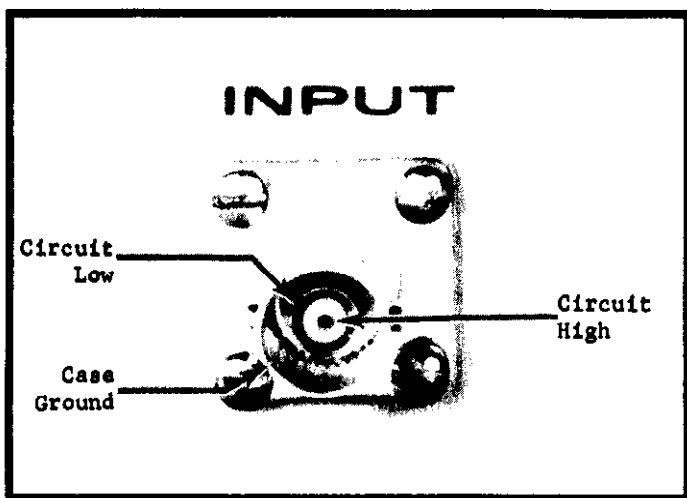

FIGURE 3. Model 615 Triaxial Input Receptacle.
a. The INPUT Receptacle of the Model 615 is a Teflon insulated triaxial connector. The center terminal is the high impedance terminal; the inner shield is the low impedance terminal; the outer shield is case ground. (See Figure 3).